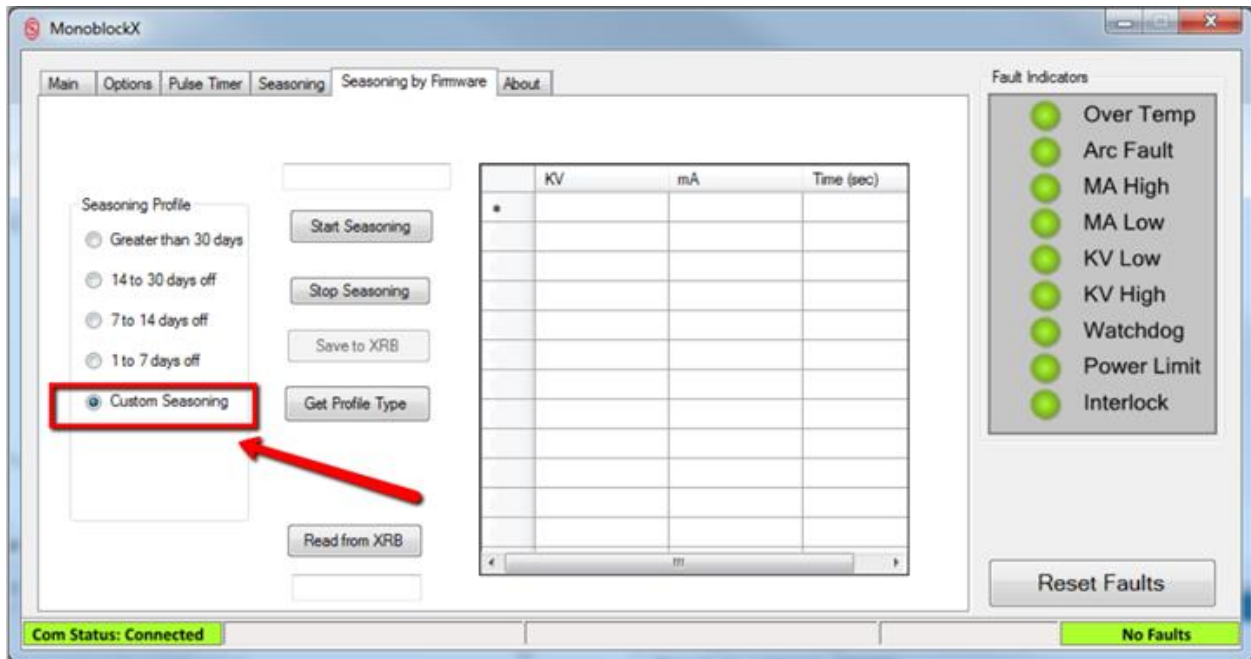

Figure 29: Custom Seasoning Profile Selected
2. Select *Load Current Setpoints* to load the current setpoints the power supply is using to the A and B setpoint fields. At this point, the timer should now be configured with the same voltage and current setpoints, but with opposite HV enable settings for each cycle, as shown is Figure 29.